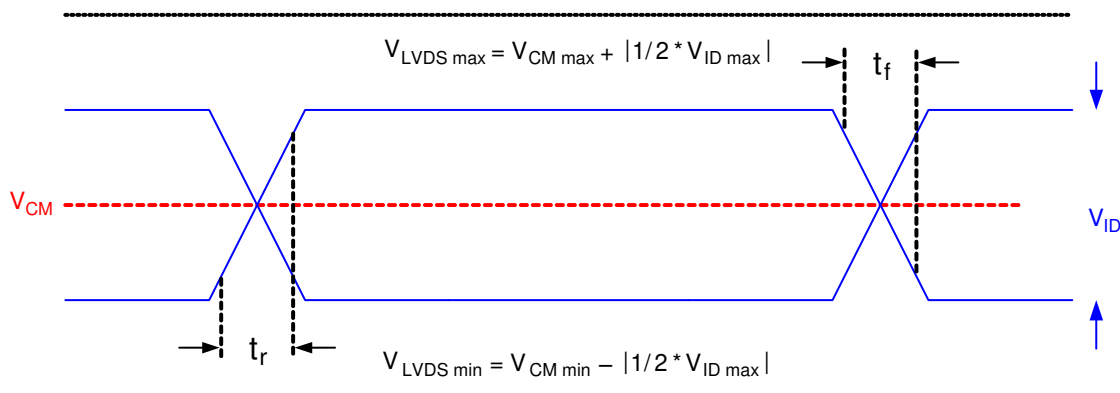

Figure 6-6. LVDS Waveform Requirements
- (8) See Figure 6-6 LVDS Waveform Requirements.
- (9) Simultaneous exposure of the DMD to the maximum Section 6.4 for temperature and UV illumination will reduce device lifetime.